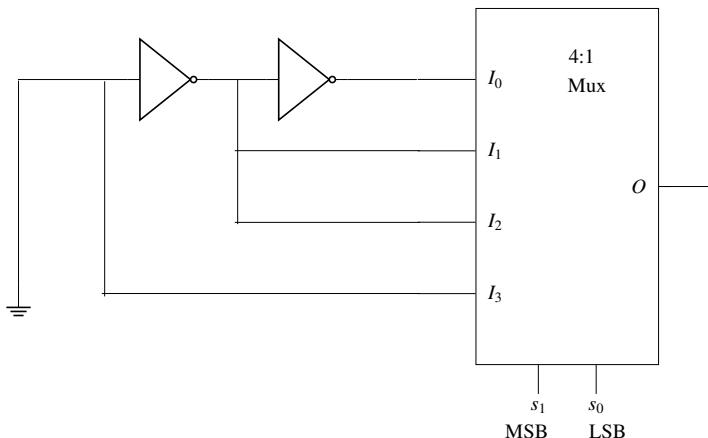

Fig. 3.26: Circuit Diagram
42. The Boolean operation performed by the following circuit in Fig. 3.26 at the output O is _____ (GATE IN2020 – 12)